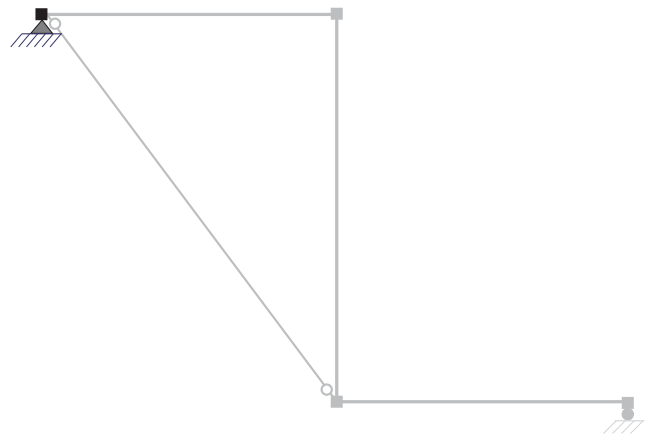

Figure 3: Deformed shape
2. Determine the node translations and draw the deformed shape in Fig. 3.